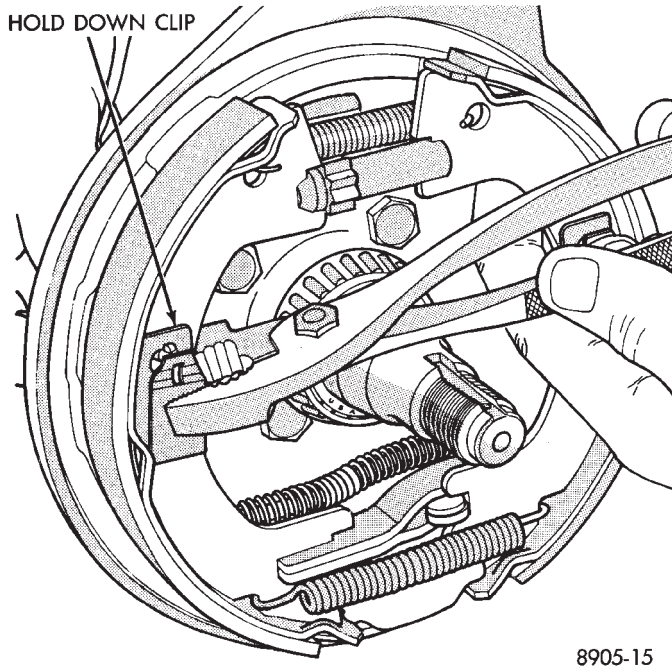

Fig. 1 Removing Brake Shoe Hold-Down Clip
Insert parking brake cable housing retainers into hole in rail bracket and parking brake pedal assembly (Fig. 1).
(1) Remove rear disc brake caliper assembly from adapter and braking disc (See Disc Brake Shoe Removal).
(2) Remove rear braking disc from rear hub (See Removing Braking Disk).
(3) Remove grease cap.
(4) Remove cotter pin, lock nut, hub bearing retaining nut, and washer.
(5) Remove hub and bearings. (See Wheel Bearing Section)
(6) Remove forward brake shoe assembly hold down clip (Fig. 1).